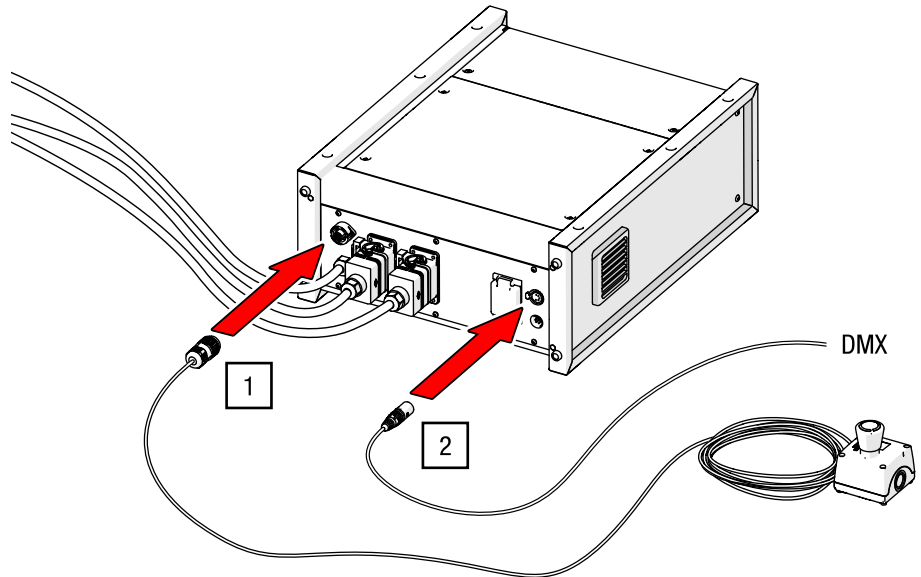

Fig. 38: G-FRAME 54 – Connecting DMX (model may vary)
1. Connect the male connector of the emergency stop button to the “Emergency Stop” socket on the rear of the control unit (see Fig. 38).
2. Connect the DMX-input cable from the external DMX controller to the DMX-IN-socket (5/ Fig. 14) on the rear of the control via the 5-pin XLR male connector (see Fig. 38).